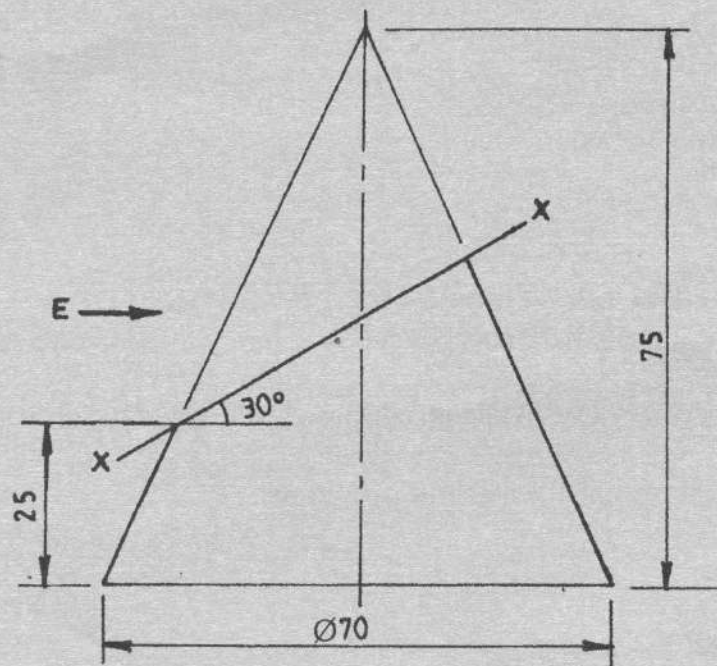

Fig. 1
5. Figure 1 shows an elevation of a truncated cone. Draw the given elevation and complete the following: